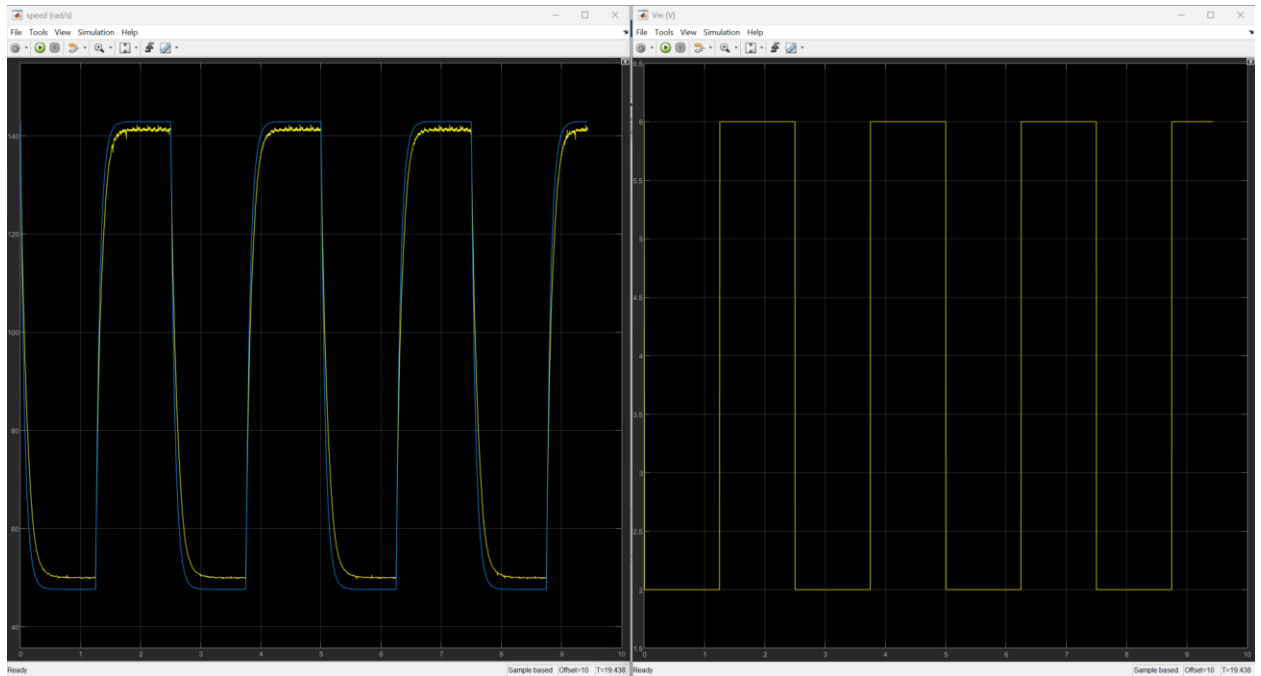

Figure 3: Speed scope of the Qube-Servo 3 Physical Vs. Model
8. Run the QUARC controller using the Run button on the **Simulation** tab. The speed (rad/s) scope response should be similar to Figure 3. Take a screenshot of the scope.